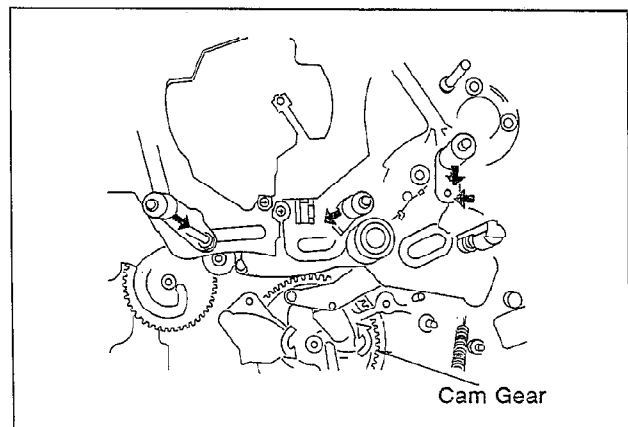

Fig. M25
- (1) Turn the Cam Gear to counterclockwise that set the Mechanism to stop position(unloading end) as shown in Fig.M25.